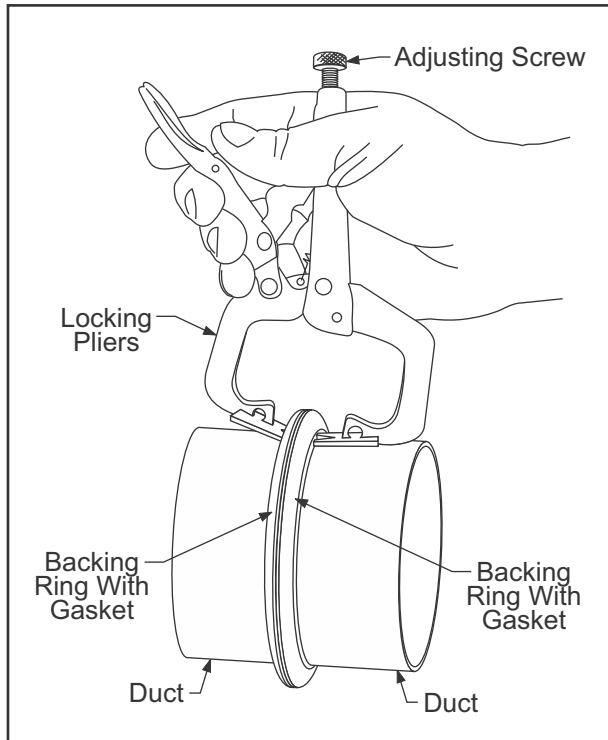

Fig. 14: Secure duct alignment with locking pliers
2. Bring Flanges Together: Carefully bring together the two flanges to be joined. Duct support hangers are the best method for aligning duct prior to installation. Secure this positioning using special locking pliers. (Fig. 14)